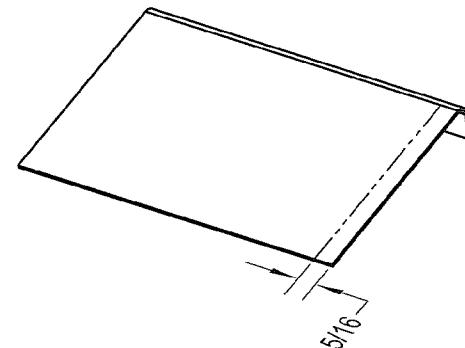

FIGURE 1: MARKING W-1007D
Step 1: With the W-1007D Rear Spar Doubler Plate oriented as shown in Figure 1 draw a line parallel with the edge of the doubler per the dimensions given. Repeat this process on all four rear spar doubler plates.